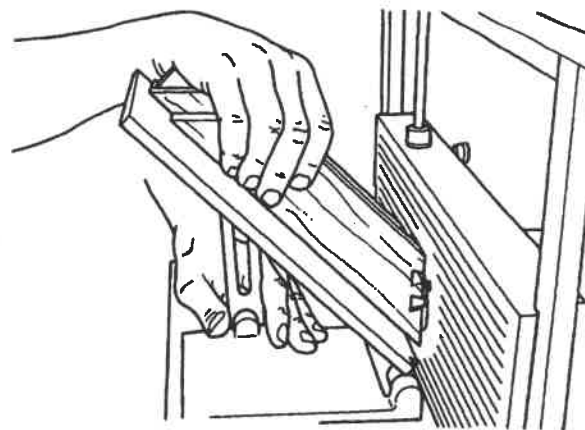

Fig. D-8
8. Lower the bit the same number of turns you calculated in Step 5. Turn on the Dust Collector and router. Make another cut, just like you did in Step 6. See Fig. D-8.